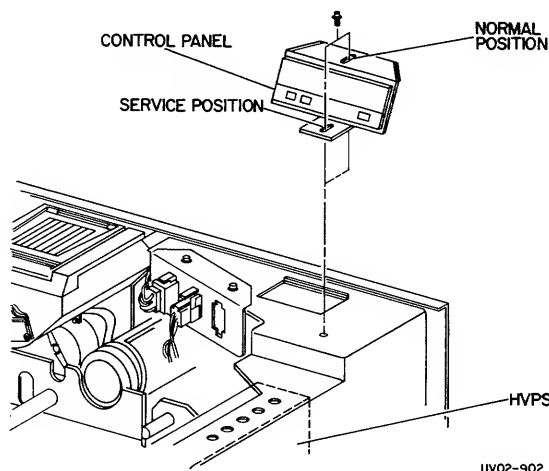

Figure 3-27. Control Panel
2. MOVE THE CONTROL PANEL TO THE SERVICE POSITION. (Figure 3-27).